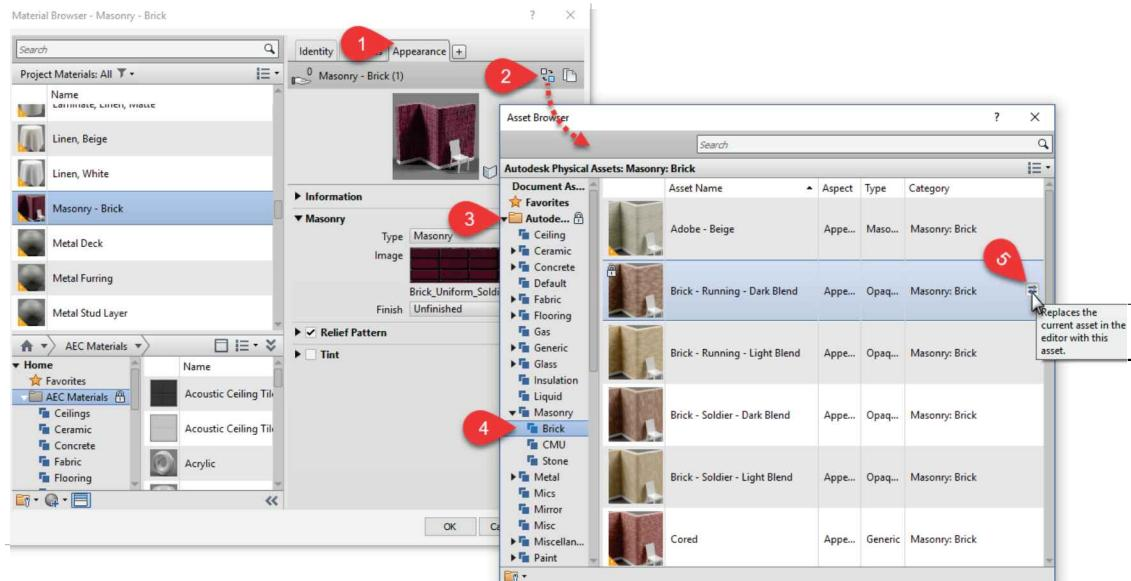

FIGURE 14-2.6 Materials Browser dialog
13. In the *Material Browser* dialog, select the *Appearance* tab and then click the **Replace this asset** link (Steps 1 and 2, Figure 14-2.6).
14. Select the *Appearance Library* category and then *Masonry\Brick* (Steps 3 and 4), locate the **Brick - Running – Dark Blend** and then click the Replace link (Step 5) (Figure 14-2.6).